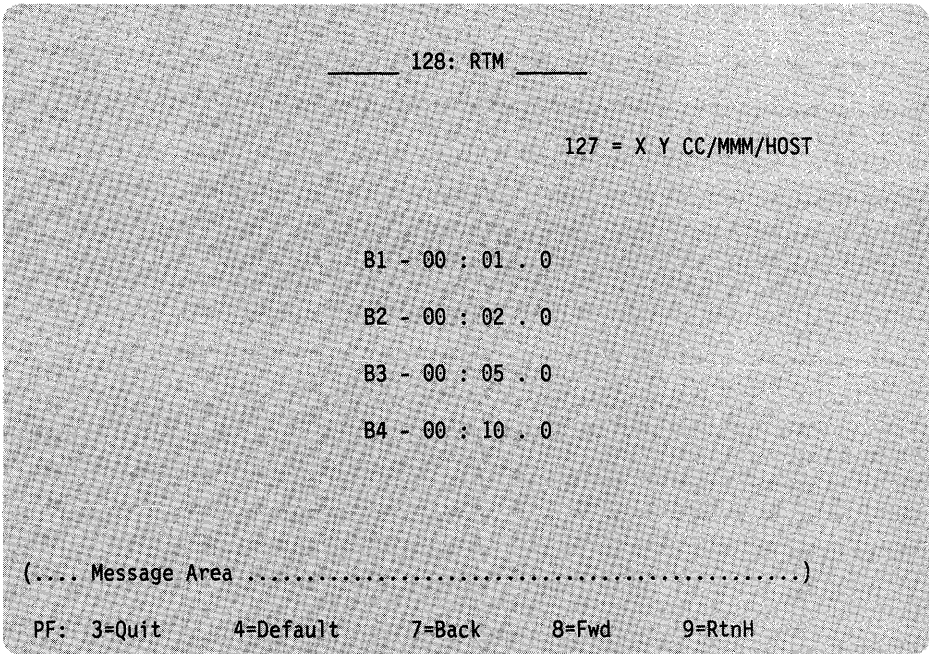
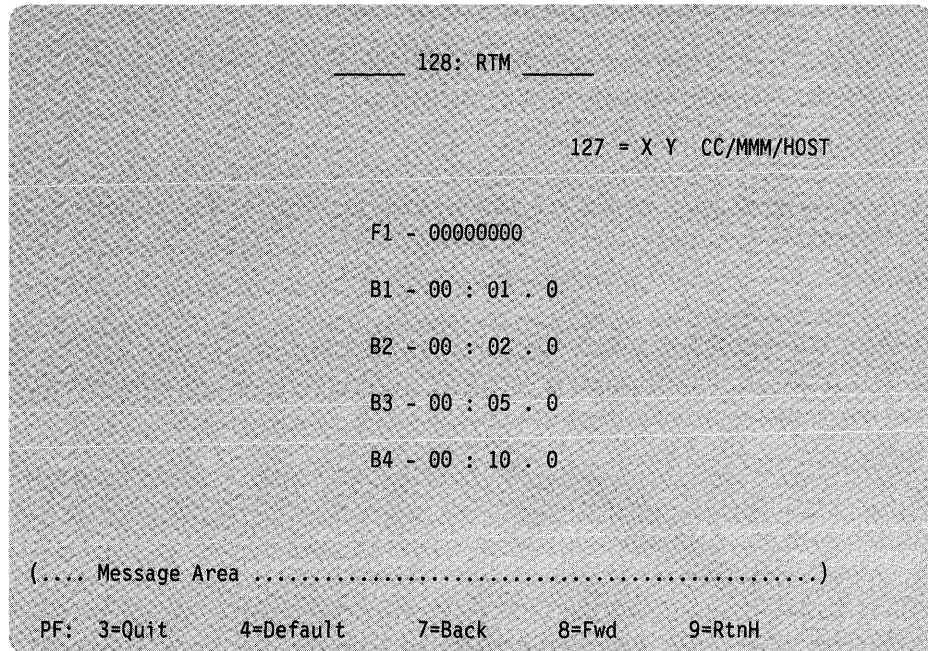

Figure 5-1. Version A of the 128 Panel
Figure 5-2. Version B of the 128 Panel
- Version A (Figure 5-1) appears if the first digit was 1 or 2. It allows you to specify the time boundaries for the RTM counters.
- Version B (Figure 5-2) appears if the first digit was 3, 4, or 5. This panel provides fields for specifying a flag for setting host interface status and fields for setting the time boundaries.
- If you want to use the values that displayed in Figure 5-1 on page 5-7 or Figure 5-2 on page 5-8, circle “Default Values.” You have completed the worksheet.